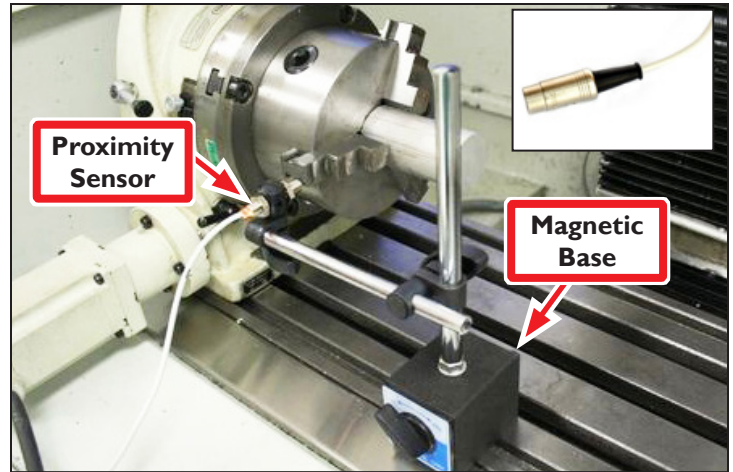
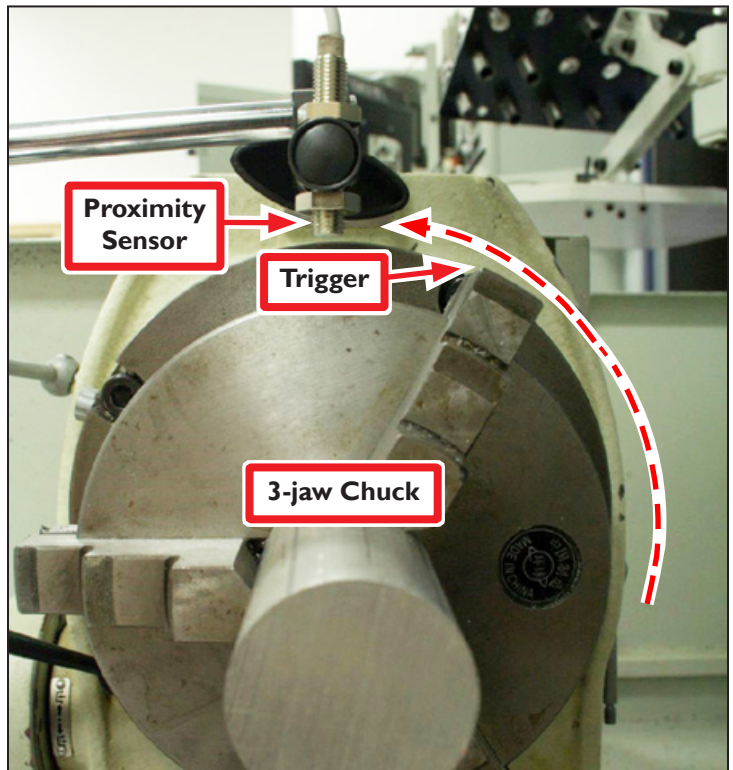

Figure 1
Figure 2
2. Identify DIN Connector on one end of 4th Axis Homing Kit (see **Figure 1 inset**); plug in to accessory port on operator panel.
3. Mount Proximity Sensor on a temporary fixture like a Magnetic Base or similar (see **Figure 1**).
4. Identify a Trigger point for Proximity Sensor. In the setup shown in **Figure 2**, one jaw of 3-jaw Chuck on the 4th axis serves as a Trigger as it rotates in a perpendicular path toward the Proximity Sensor.
5. Ensure Trigger approaches Proximity Sensor face from a 90° angle (see **Figure 2**).
NOTE: Repeatability is dependent on both the size of the Trigger and the airgap between the Trigger and the Proximity Sensor face. In the setup shown in **Figure 1** and **Figure 2**, repeatability was better than 15 arc seconds of rotation.